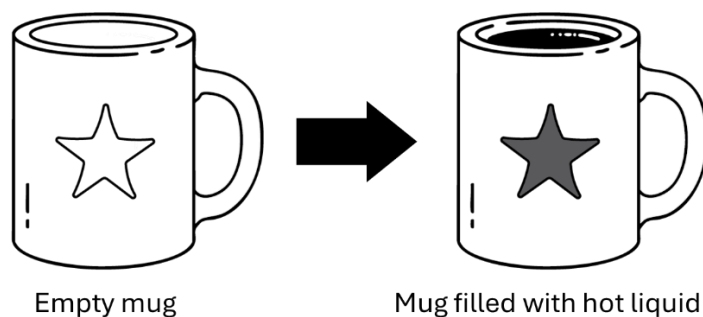

Figure 1
7. Figure 1 shows a mug that has a star printed on it using thermo-chromic ink.